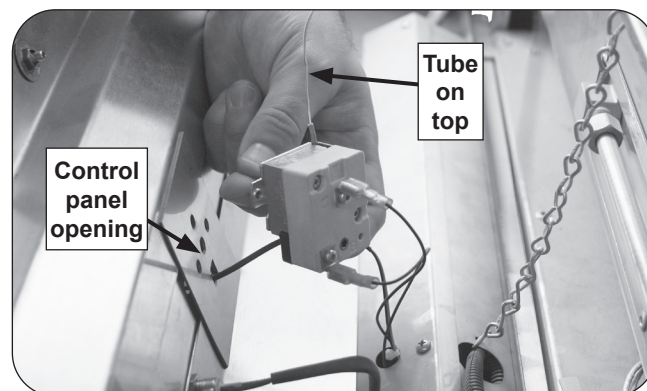

Fig. 2-3 Orient thermostat
11. With the thermostat tube on top, orient the new thermostat control over the control panel opening, and insert the stem through the hole. Align the thermostat screw holes and secure the thermostat to the control panel with the remaining provided screws. See Fig. 2-3.